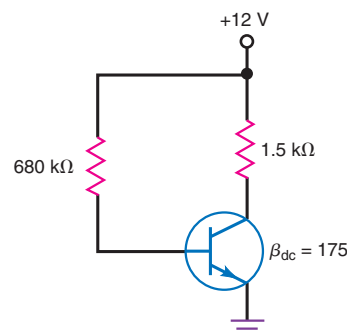

Figure 33-50
- 33.8 In Fig. 33-50, what is V_{CE} ? Is this correct biasing for this circuit?